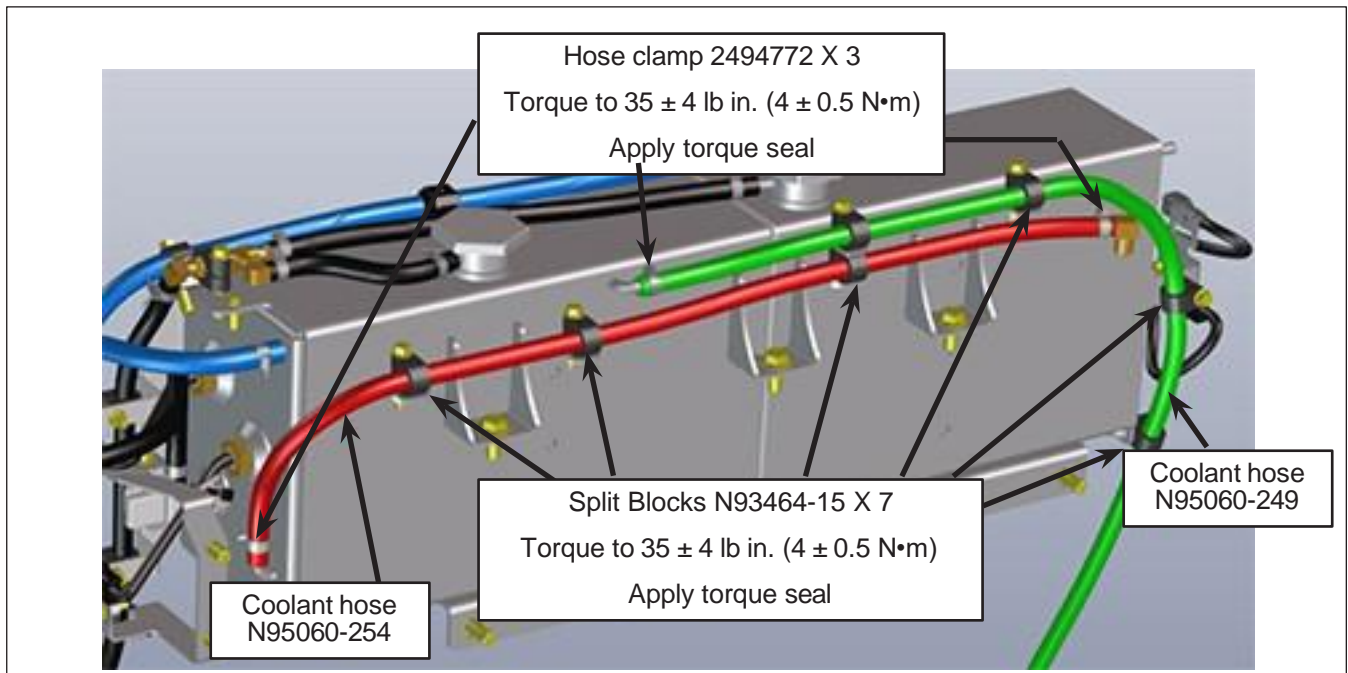

Figure 6 - New Coolant Hoses N95060-249 and N95060-254 Installed on Surge Tank.
- 1.19. Connect the new coolant hose N95060-254 to the surge tank and radiator using hoses clamp 2494772. See Figure 6 for torque value.
- 1.20. Connect the new coolant hose N95060-249 to the surge tank using the hose clamp 2494772. See Figure 6 for torque value.
- 1.21. Fix the new coolant hoses N95060-249 and N95060-254 to the surge tank using the new split blocks N93464-15 and the retained hardware. Torque split blocks. See Figure 6 for torque value.